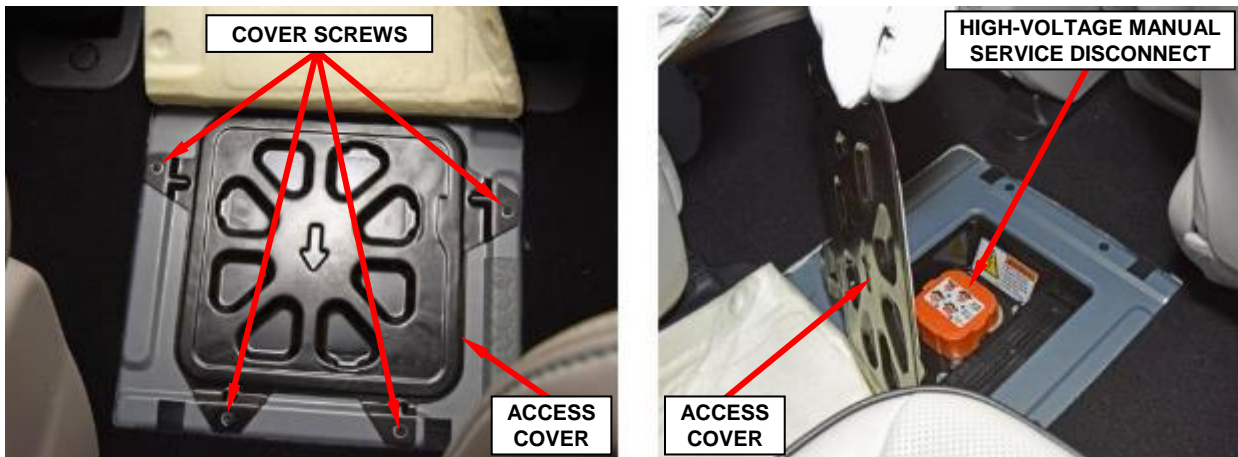

Figure 9 – High-Voltage Manual Service Disconnect Access Cover
- 16. Remove the four screws securing the high-voltage manual service disconnect access cover to the floor then remove the cover (Figure 9).